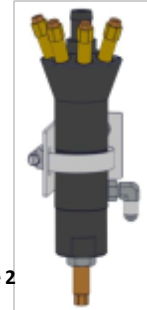

Figure 2
2. Using self tapping screws, mount pump bracket approximately 1'-3' below the reservoir. Attach pump to bracket using provided hose clamp. Pump must be mounted in upright position. See figure 2